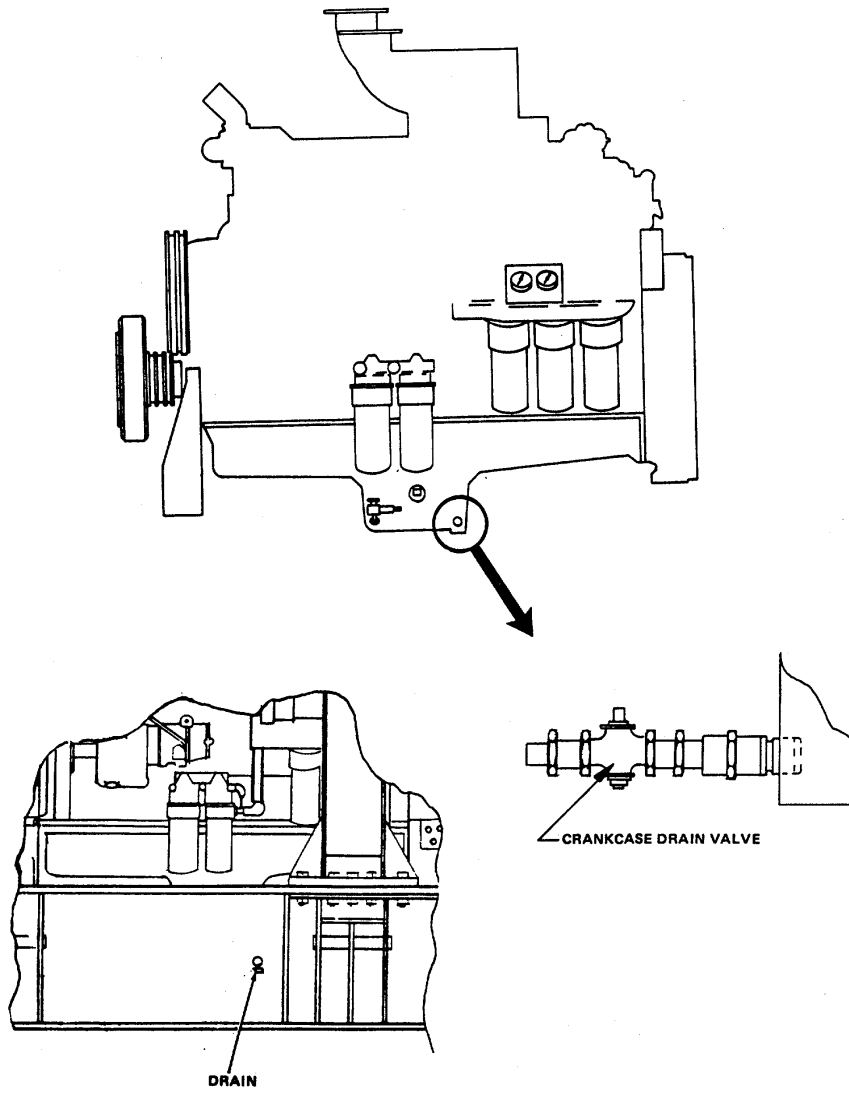

Figure 4-4. Location of Engine Crankcase Drain and Drain Valve
- (7) Make certain that the crankcase drain is closed (figure 4-4).